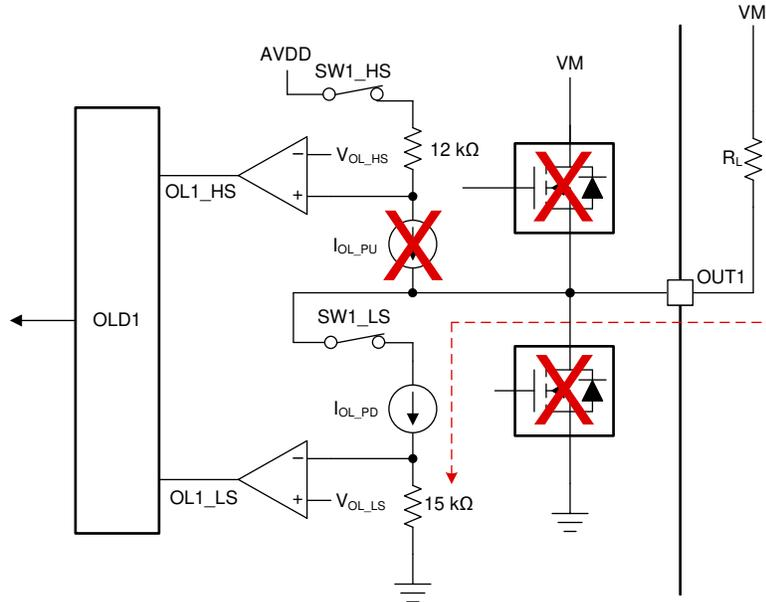

Figure 8-20. Open Load Detect Circuit for Load Connected to Supply Voltage (VM)
OLD circuit consists of four main components i.e. current source (and current sink), series sequencing switches (sequenced by the digital core), resistors and comparators. For ground (GND) connected load, the current source ( $I_{\text{OL\_PU}}$ ) pulls up the OUTx node to internal regulator voltage (AVDD) and allows the current to flow from internal regulator voltage (AVDD) to ground via the connected load as shown in Figure 8-18. Moreover, for the supply (VM) connected load, the current sink ( $I_{\text{OL\_PD}}$ ) pulls down the current from supply voltage (VM) to ground via the connected load as shown in Figure 8-20. The resistance of the load connected at the OUTx terminal will change the source / sink current and indirectly the voltage drop across two resistors (12-k $\Omega$  and 15-k $\Omega$ ). This voltage drop across resistors is compared with the reference voltage ( $V_{\text{OL\_HS}}$  and  $V_{\text{OL\_LS}}$ ) by the internal comparators to give the output as OL1\_HS and OL1\_LS. This comparator output is fed to the open load digital circuit to determine the open load condition.
Figure 8-20 shows the supply (VM) connected load with internal OLD circuit. When low-side open load sequence is activated (i.e. SW1\_HS is off and SW1\_LS is on), the current sink ( $I_{OL\_PD}$ ) pulls down the OUT1 node to supply voltage ( $V_{VM}$ ) and current flows from supply (VM) to ground via the connected load ( $R_L$ ). Now, depending upon if the load is present or not, there can be three cases as follows: